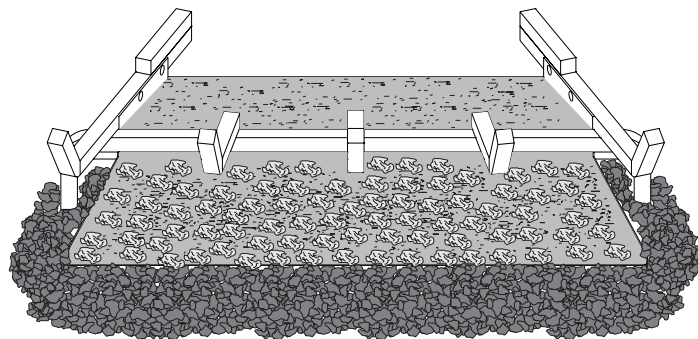

Figure 8
7. Place the Lava Rock (cinders) around the Grate/Burner Assembly. See Figure 8.